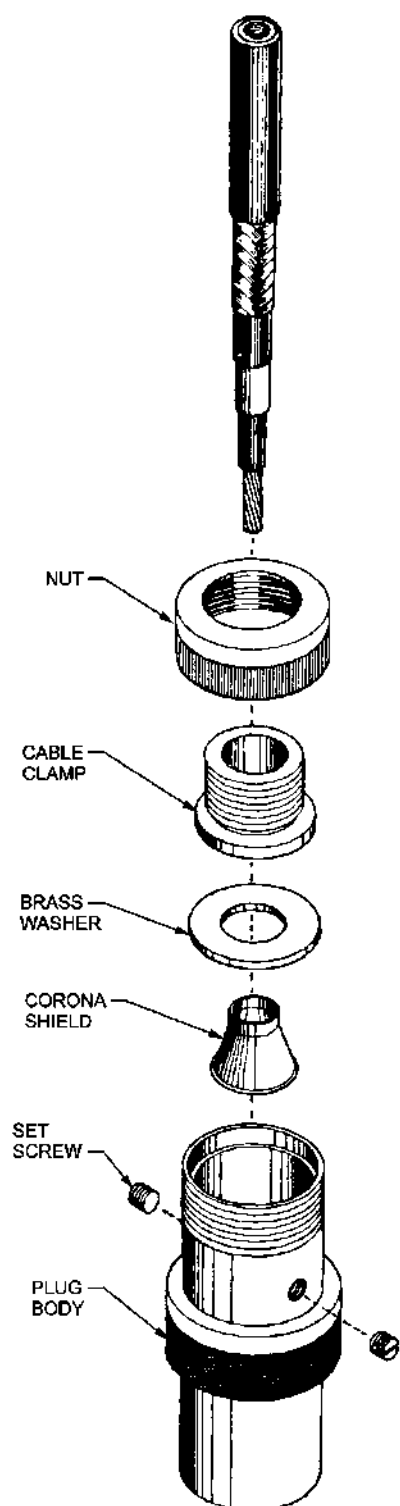

Figure 12-30 Pulse Connector - Ceramic Insert
- a. **Ceramic Insert Version.** Consists of a plug or jack body assembled to coaxial cable with nut, cable clamp, washer, and corona shield. (See Figure 12-30). Plug UG-174/U is typical of this version.
- a. Disassemble nut, cable clamp, washer, and corona shield from plug or jack body. (See Figure 12-30.)